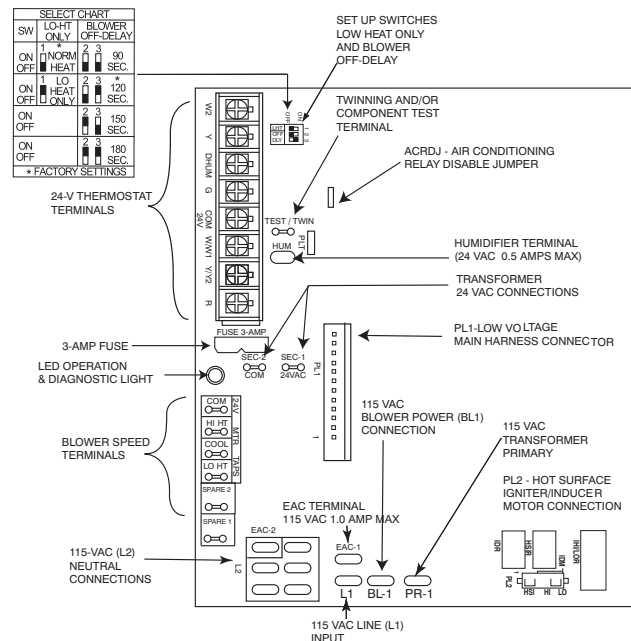

Fig. 14 - Two-stage Furnace Control
5. Turn Setup Switch SW1 (LHT) on furnace control ON (see Fig. 14).
1. Verify SW1 (LHT) on furnace control is turned "ON". See Fig. 14.